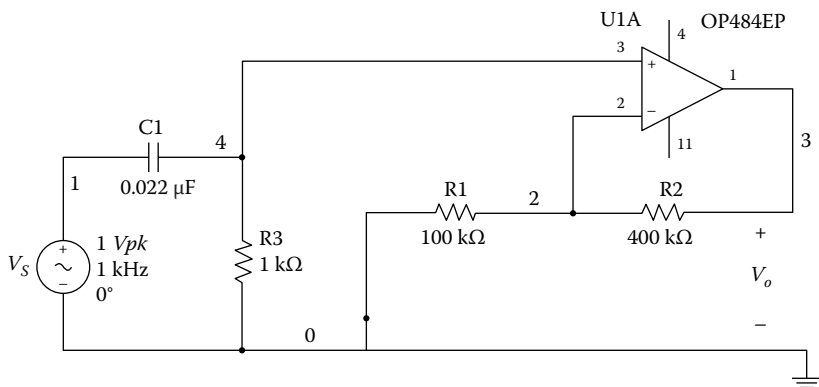

FIGURE P5.9
Problem 5.9 Build the circuit shown in Figure P5.9. Use the Network Analyzer of the Analog Discovery board to: (1) Obtain the Bode plot of the filter. (2) Measure the cut-off frequency. (3) Obtain the high-frequency gain of the circuit. Compare the measured values, obtained in parts (2) and (3), with those calculated by using Equations 5.22 and 5.23.